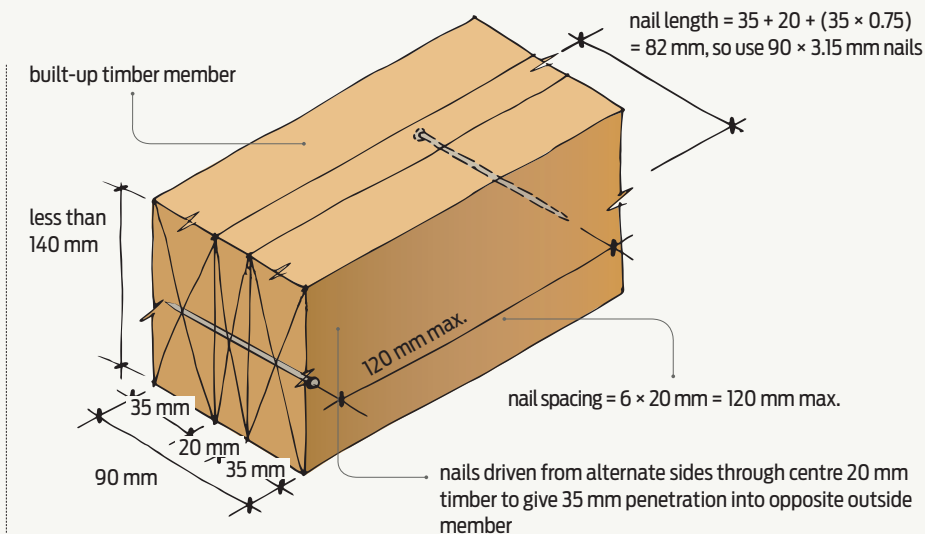

Figure 1 Built-up horizontal member under 140 mm depth (for lintels and beams).
- nails are to be driven from alternate faces of the member (see Figure 1).